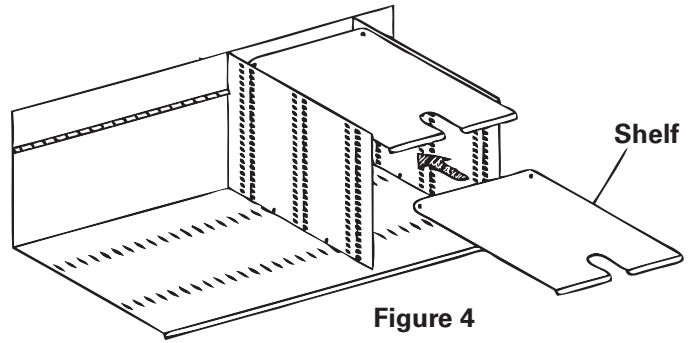

Figure 4
4. Horizontal shelves can now be installed at ½" intervals, either level or tilted (see figure 4).